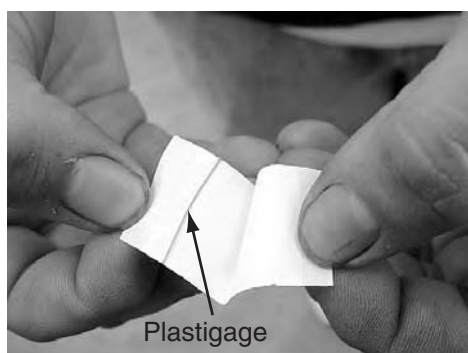

FIGURE 12.39 Open the wrapper and remove the piece of Plastigage. (Courtesy of Tim Gilles)
- Remove the Plastigage from its wrapper (Figure 12.39). Apply it to the bearing journal between the bearing and the crankshaft (Figure 12.40), and torque the bearing cap. When the cap is